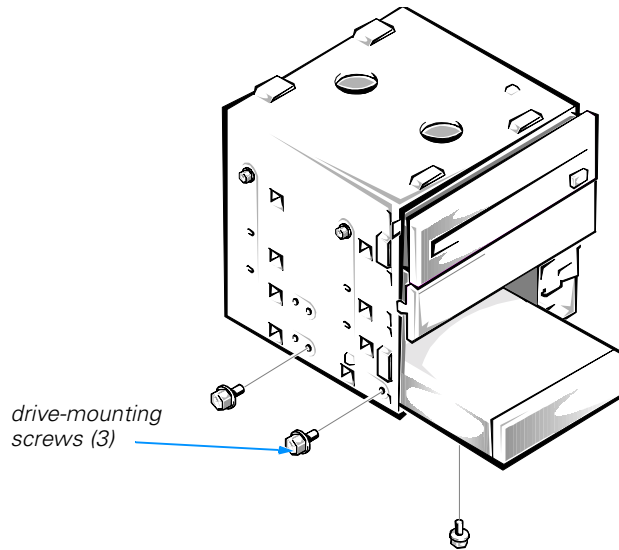

Figure 3-10. Installing a Drive in the Lower 3.5-Inch Drive Bay (Mini Tower Chassis Only)
- Slide the new drive into the drive bay. Secure it to the drive cage, as shown in Figure 3-10, with one screw on the bottom and two screws on the left side.